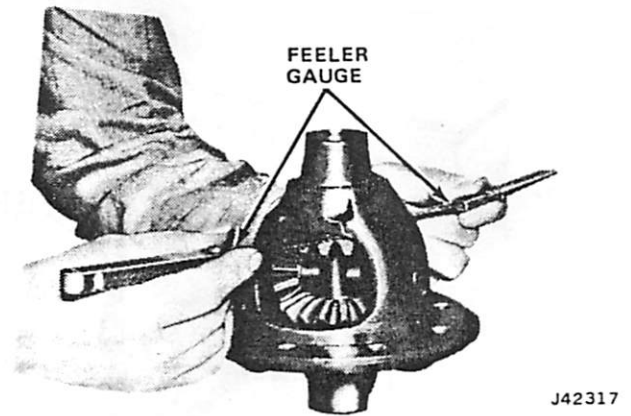

Fig. 2F-56 Checking Side Gear Clearance
- (1) Install thrust washers on side gears and install gears in case.
- (2) Install thrust washers on differential pinion gears and install gears in case.
- (3) Install thrust block and pinion mate shaft pin in case.
- (4) Position differential case on end.
- (5) Tap differential case lightly on flat surface to settle gears into position in case.
- (6) Measure clearance between case and side gears using feeler gauges (fig. 2F-56). Clearance between gears and case must be 0.000 to 0.006 inch (0.00 to 0.15 mm).